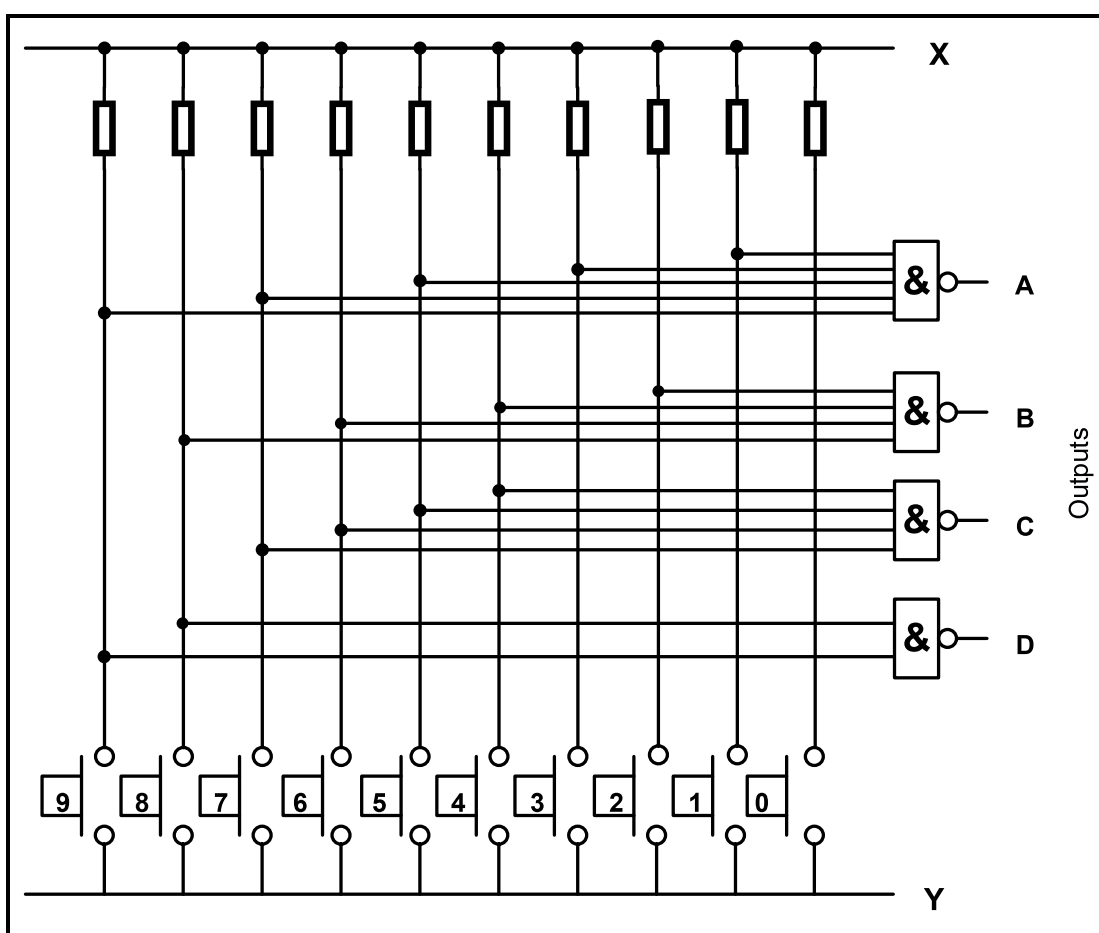

FIGURE 5.2: DECIMAL-TO-BINARY ENCODER
5.2 Refer to FIGURE 5.2 of a decimal-to-binary encoder below and answer the questions that follow.